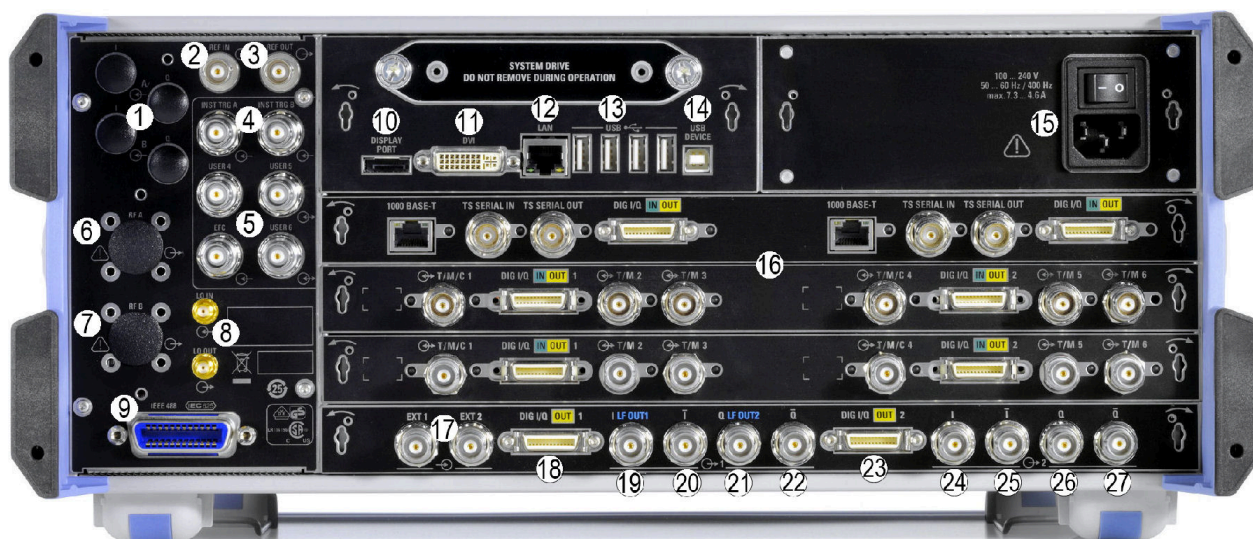

Fig. 4-2: Rear panel view (example; 2 paths instrument)
See (15) in figure 4-2.
See (10) in figure 4-2.
See (11) in figure 4-2.
See (12) in figure 4-2.
See (13) in figure 4-2.
See (14) in figure 4-2.
See (1) in figure 4-2.
See (4) in figure 4-2.
See (2) in figure 4-2.
See (3) in figure 4-2.
See (5) in figure 4-2.
See (6, 7) in figure 4-2.
See (8) in figure 4-2.
See (9) in figure 4-2.